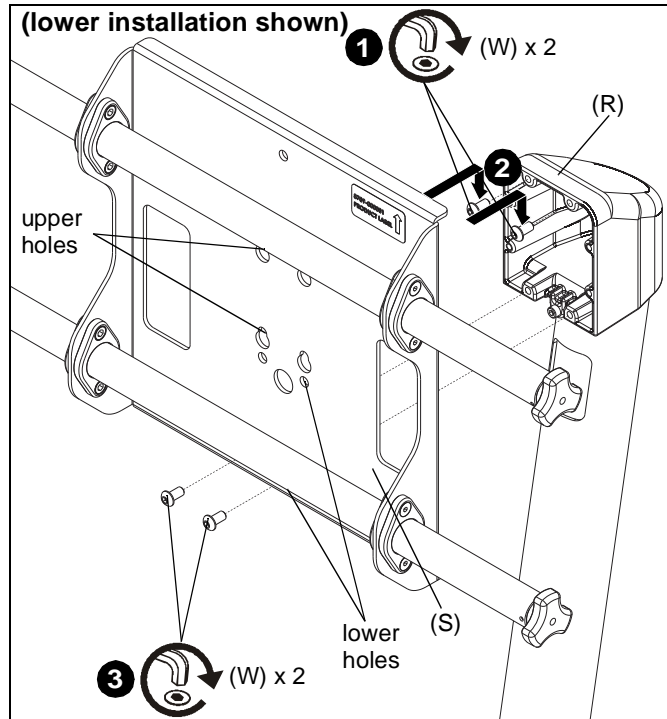

Figure 1
1. Loosely install two 1/4-20 x 1/2" button head security screws (W) into top holes on table stand (R). (See Figure 1)
2. Hang table stand interface (S) over two partially installed screws. Use upper holes for higher installation or lower holes for lower installation. (See Figure 1)
3. Use two 1/4-20 x 1/2" button head security screws (W) to secure table stand interface (S) to table stand (R). (See Figure 1)